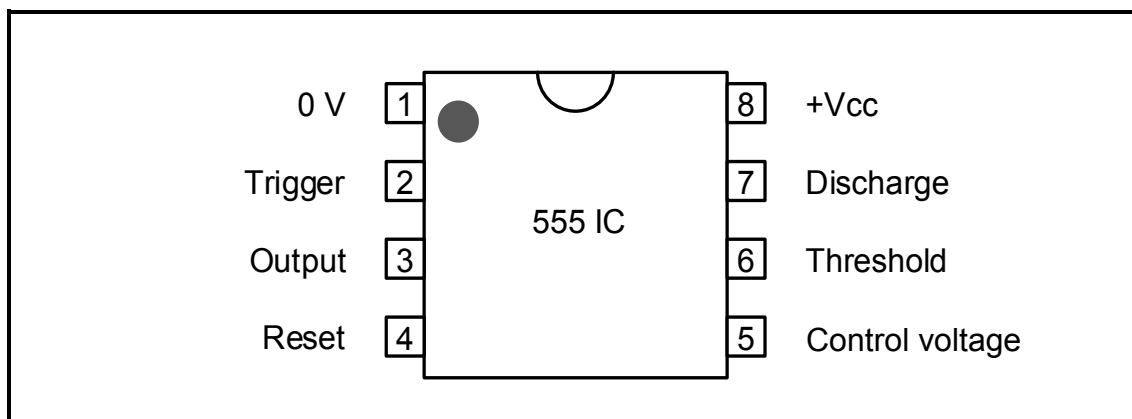

FIGURE 3.6: 555 IC
3.6 FIGURE 3.6 below shows the 555 IC. Answer the questions that follow.